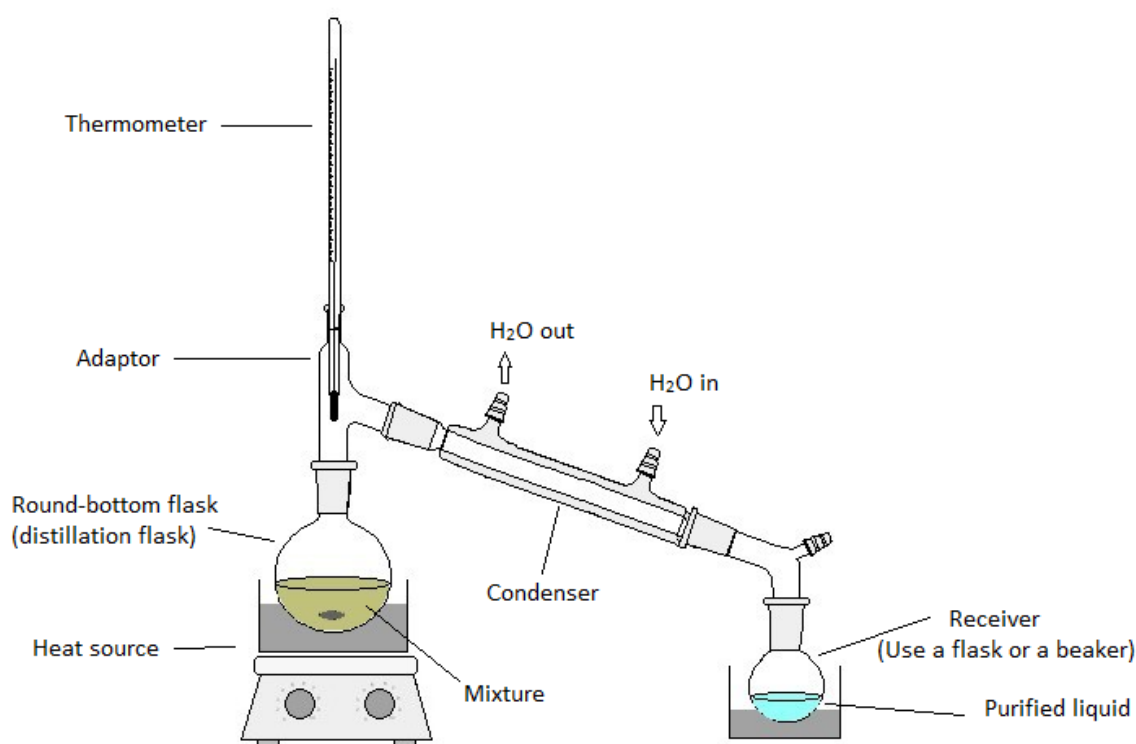

Figure 6: Experimental set-up for simple distillation
3. Place an adaptor and a thermometer on the flask and connect it to a condenser as shown in Figure 6 (ask your instructor for help). Note that the system should not be completely closed (why?).